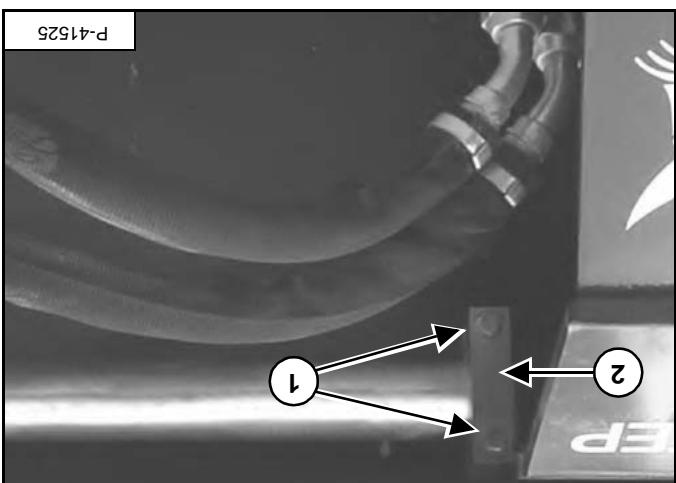
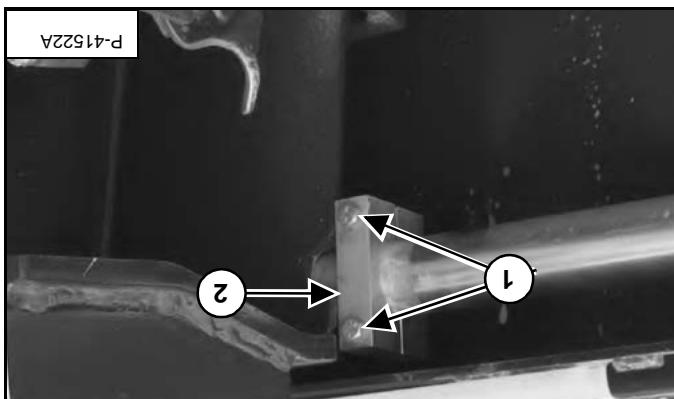

Figure OI-71
Figure OI-70
Slide the blocks (item 2) [Figure OI-70] and [Figure OI-71] against the trencher frame.
[Figure OI-70] and [Figure OI-71].